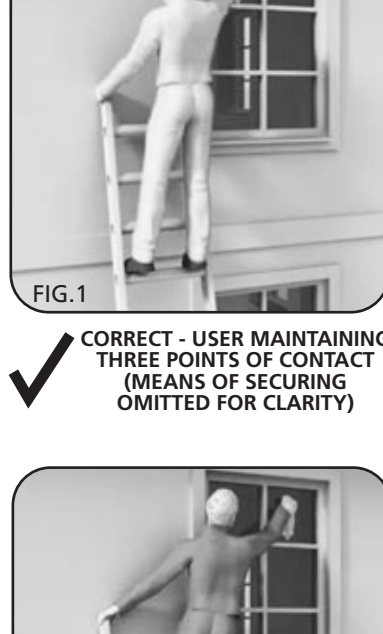

FIG.1 CORRECT - USER MAINTAINING THREE POINTS OF CONTACT (MEANS OF SECURING OMITTED FOR CLARITY)
7.4 USING THE LADDER - FIGS. 1 - 2